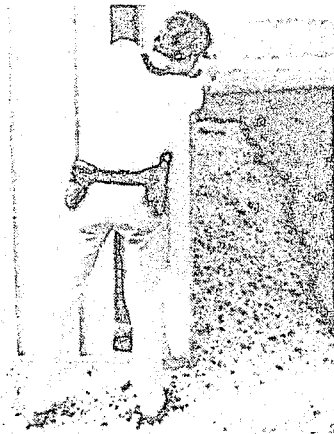

Figure 6-26
C. Standing barricade (wall type) Strong side - Weak side (See Figures 6-26 and 6-27)